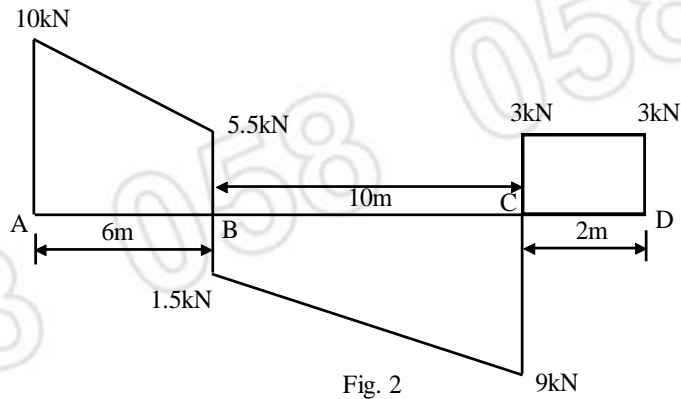

Fig. 2
3. Shear force diagram in fig. 2 for a beam which rests on two supports, one being on the left hand end Deduce directly from the shear force diagram.